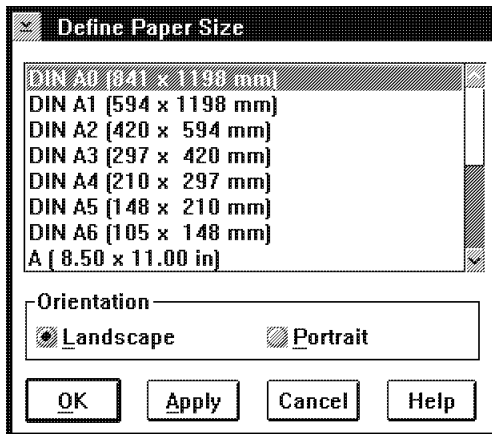

Figure 46. Define Paper Size Window
1. Select **Paper size** from the **Settings** pull-down. You see the Define Paper Size window shown in Figure 46.